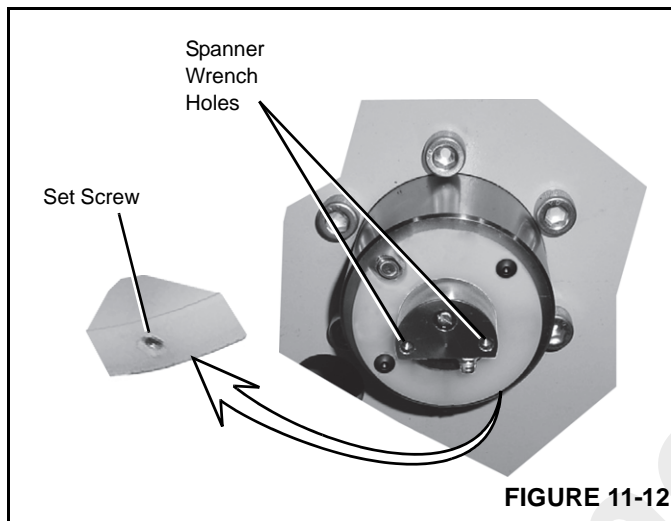

FIGURE 11-12
4. Loosen the set screw on the bottom of the DRI flange (Figure 11-12).